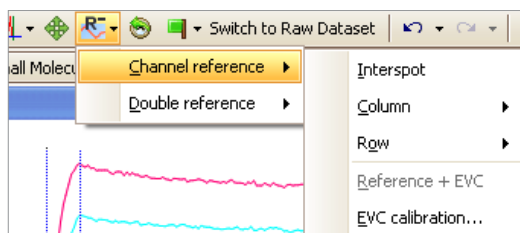

Fig. 5. Opening the EVC calibration wizard.
- Select Channel Reference and choose EVC Calibration (Figure 5).